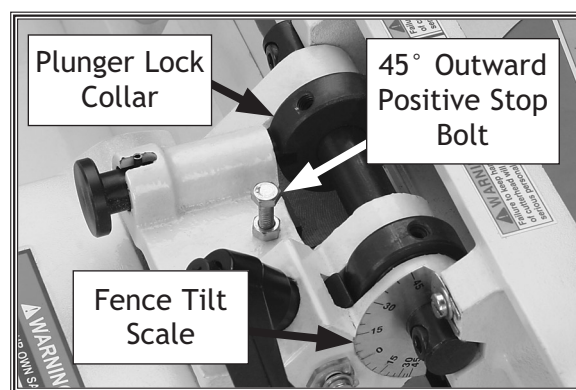

Figure 61. Fence controls.
1. Loosen the set screw in the plunger lock collar shown in **Figure 61**, and loosen the fence tilt lock.